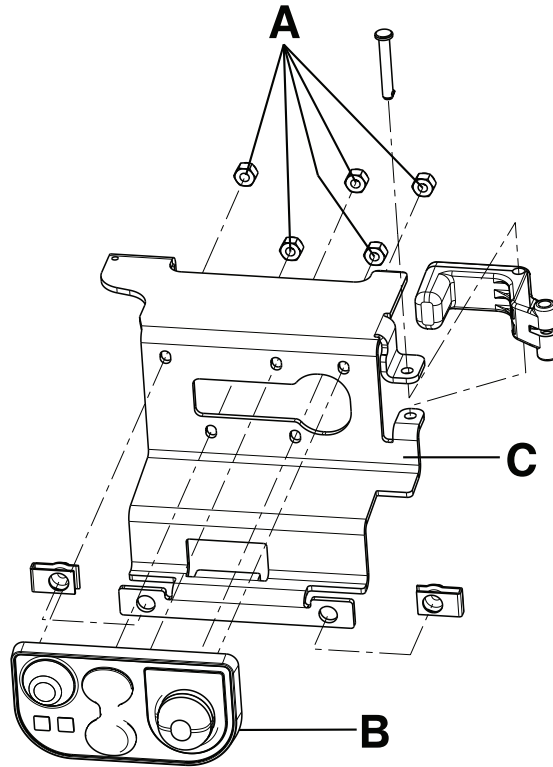

Figure 18 – Master On/Off switch and manual release button bracket assembly
- Using a 1/32" nut driver, remove the five Fiberlock hex nuts (A) that secure the master On/Off switch (B) to the manual release button bracket (C). Discard the master On/Off switch (Figure 18). Save the nuts.